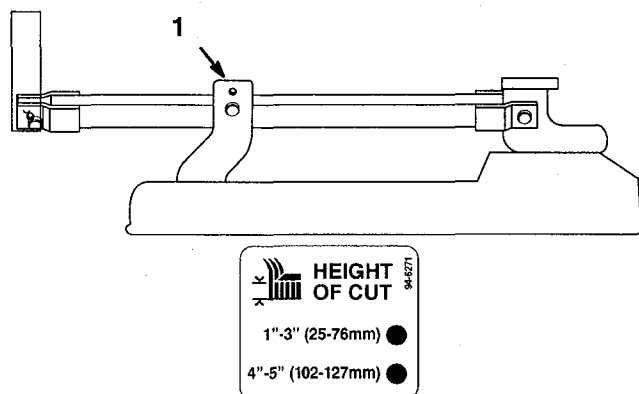

Figure 22
4. To change the side-to-side leveling, loosen upper flange nut(s) and adjust lower locknut at the front of the mower (Fig. 22).
4. To change the front-to-rear pitch, change pin location at center stabilizer mounts on both sides (Fig. 22).